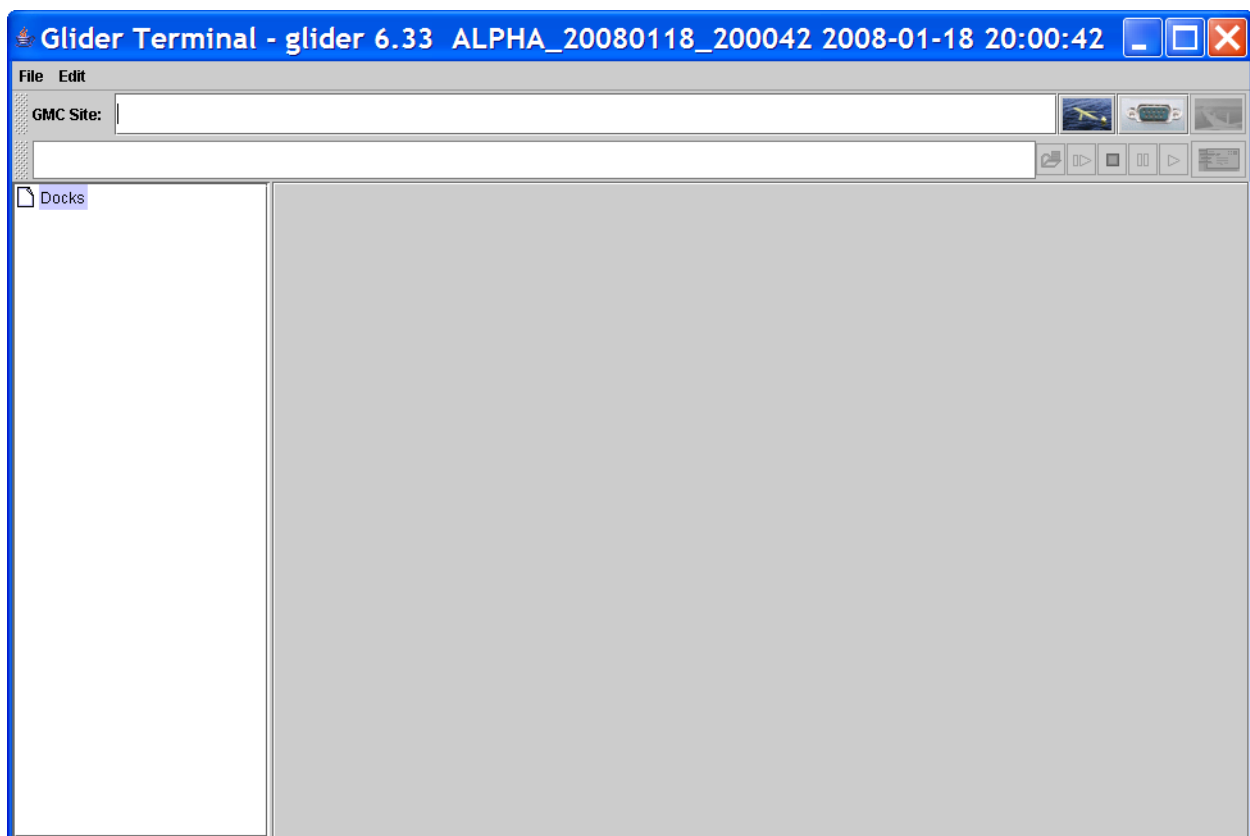

Figure 3-5. Glider Terminal Main Window.
1. Double click the desktop icon labeled “Glider Terminal” or select the item labeled “Glider Terminal” from the “All Programs” menu (Windows XP). The Glider Terminal window should appear (Figure 3-5).